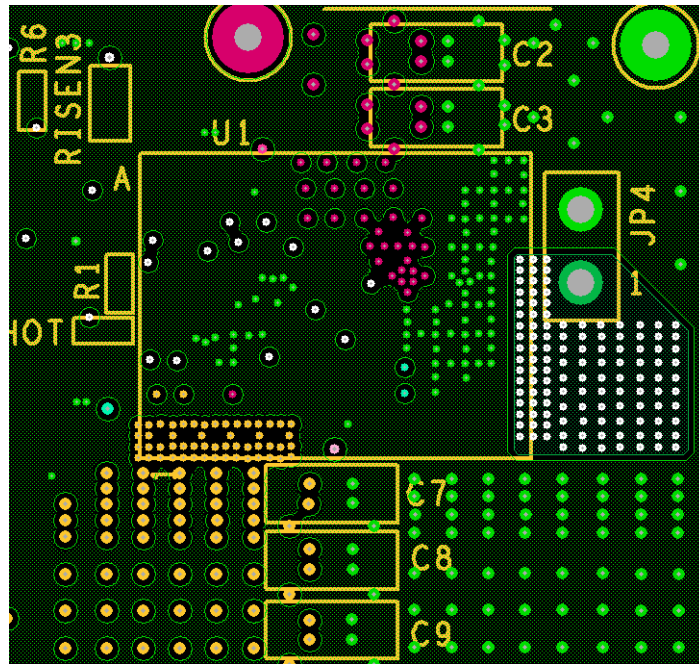

Figure 41. Layout Example - Large Area Ground Planes in Layer 2 and Layer 5.
- Use full ground planes in the second layer (underneath the module) and in the fifth layer, which is the layer above the bottom layer which contains components such as input caps, output caps and other passive components. Use the inner layers 3 and 4 to route the other signals. A layout example of a large area ground plane is shown in Figure 41.